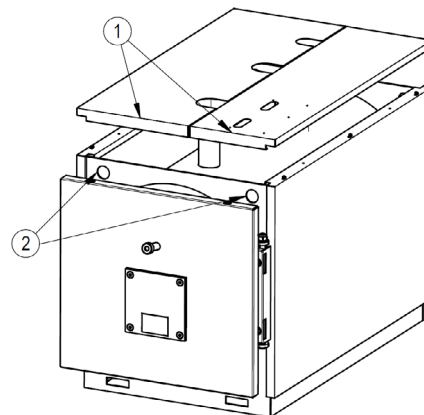

fig. 5
5.2.1 Per modelli **PREXTHERM RSW 92N+600N** (Fig. 5)